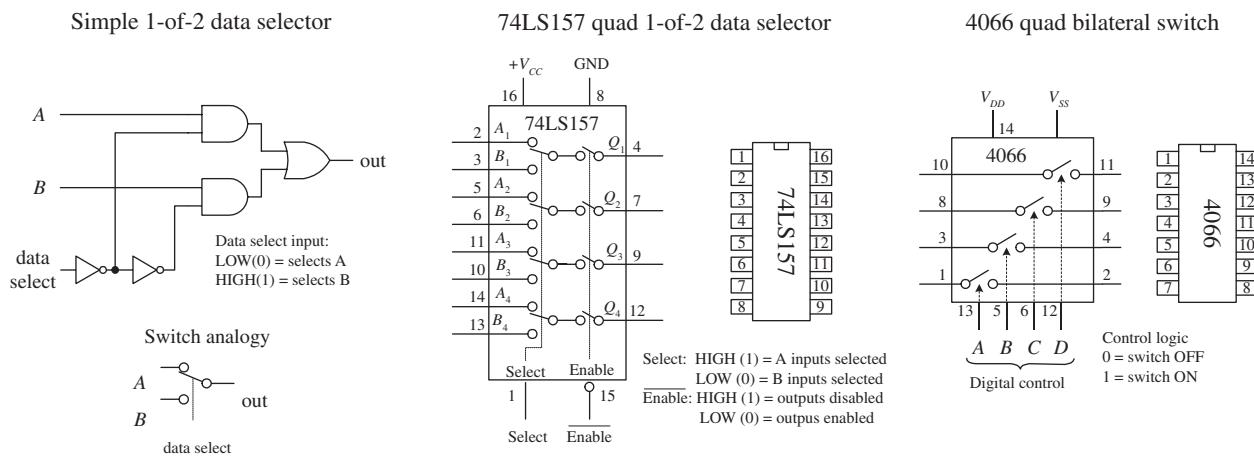

FIGURE 12.32
A simple 1-of-2 data selector built from logic gates is shown in Fig. 12.32. The data select input of this circuit acts to control which input (*A* or *B*) gets passed to the output: When data select is low, input *A* passes while *B* is blocked. When data select is high, input *B* is passed while *A* is blocked. To understand how this circuit works, think of the AND gates as enable gates.
There are a number of different types of data selectors that come in IC form. For example, the 74LS157 quad 1-of-2 data selector IC, shown in Fig. 12.32, acts like an electrically controlled quad SPDT switch (or if you like, a 4PDT switch). When its select input is set high (1), inputs  $A_1, A_2, A_3$ , and  $A_4$  are allowed to pass to outputs  $Q_1, Q_2, Q_3$ , and  $Q_4$ . When its select input is low (0), inputs  $B_1, B_2, B_3$ , and  $B_4$  are allowed to pass to outputs  $Q_1, Q_2, Q_3$ , and  $Q_4$ . Either of these two conditions, however, ultimately depends on the state of the enable input.
Figure 12.33 shows a 4-line-to-1-line multiplexer built with logic gates. This circuit resembles the 2-of-1 data selector shown in Fig. 12.32 but requires an additional select input to provide four address combinations.
Finally, let's take a look at a very useful device called a *bilateral switch*. An example bilateral switch IC is the 4066, shown to the far right in Fig. 12.32. Unlike the multiplexer, this device merely acts as a digitally controlled quad SPST switch or quad